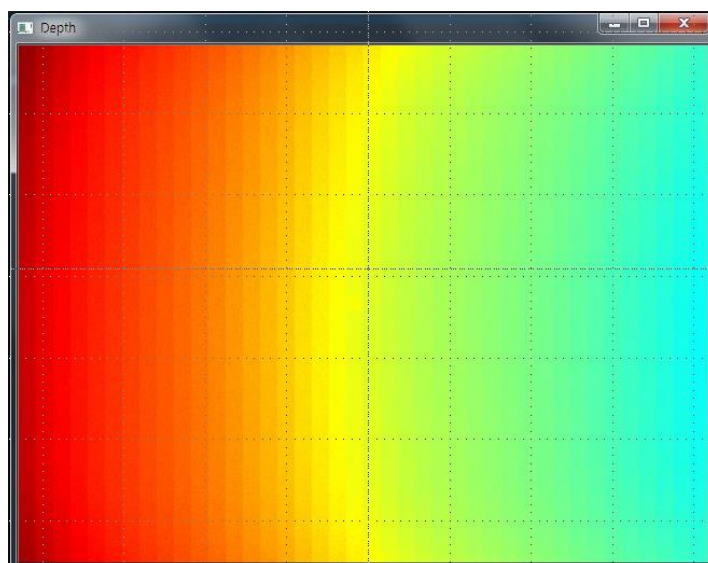
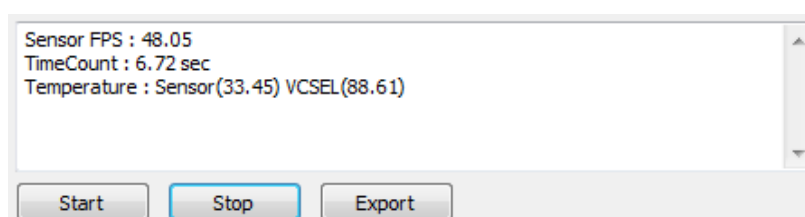

Figure 3.7 Display Depth Map
Figure 3.8 Display Information
4. Display: The checkbox 'Disp. Depth' controls a display window of depth map as shown in Figure 3.7. This checkbox is disable during mode operation. 'Disp. Info' turn on and off about information window (Edit Control Num.9), as shown in Figure 3.8.